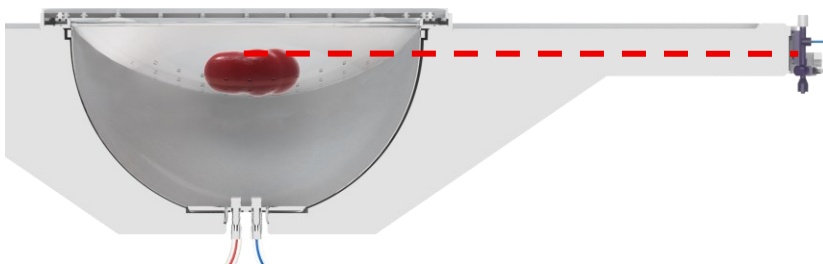

Figure 29: Height of the kidney relative to the pressure sensor
- Note that the kidney is supported by the net and the fluid in the reservoir. To ensure an accurate pressure measurement, it is essential to align the height of the kidney to the pressure sensor as shown in Figure 29. The tip of the cannula should be on the same height as the center of the pressure sensor.